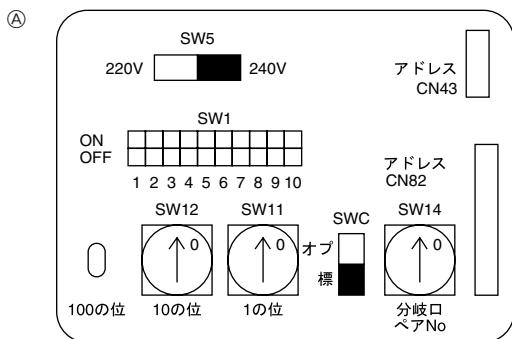

Fig. 7-4
7.3. Setting addresses (Fig. 7-4)